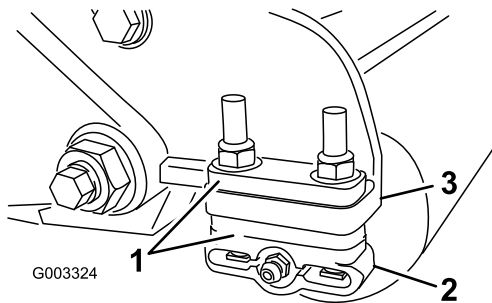

Figure 11
- Adjust the rear roller brackets (Figure 11) to the desired height-of-cut range by positioning the required amount of spacers below the side plate mounting flange (Figure 11) per the HOC Chart.